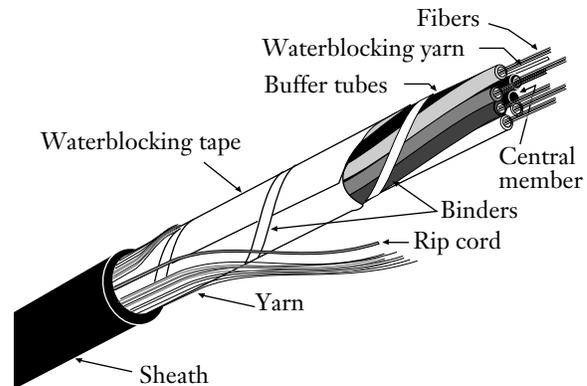

Figure 1
1.2 Corning Cable Systems ALTOS cable is a rugged fiber optic cable featuring buffer tubes and a dielectric central member protected by waterblocking tape and yarn (Figure 1).